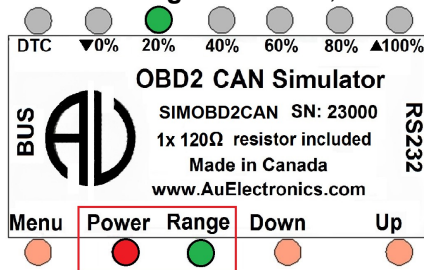

Figure 3-2
- When powered on, both **Power** LED and **Range** LED are lit, as shown in Figure 3-2.